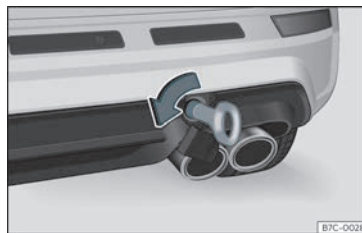

Fig. 42 On the right side of the rear bumper: towline anchorage in position.
- Screw the towing eye in the housing by turning it to the maximum **anticlockwise** >>> Fig. 42 >>> ❶. Use a suitable object that can completely and securely tighten the towing eye in its housing.